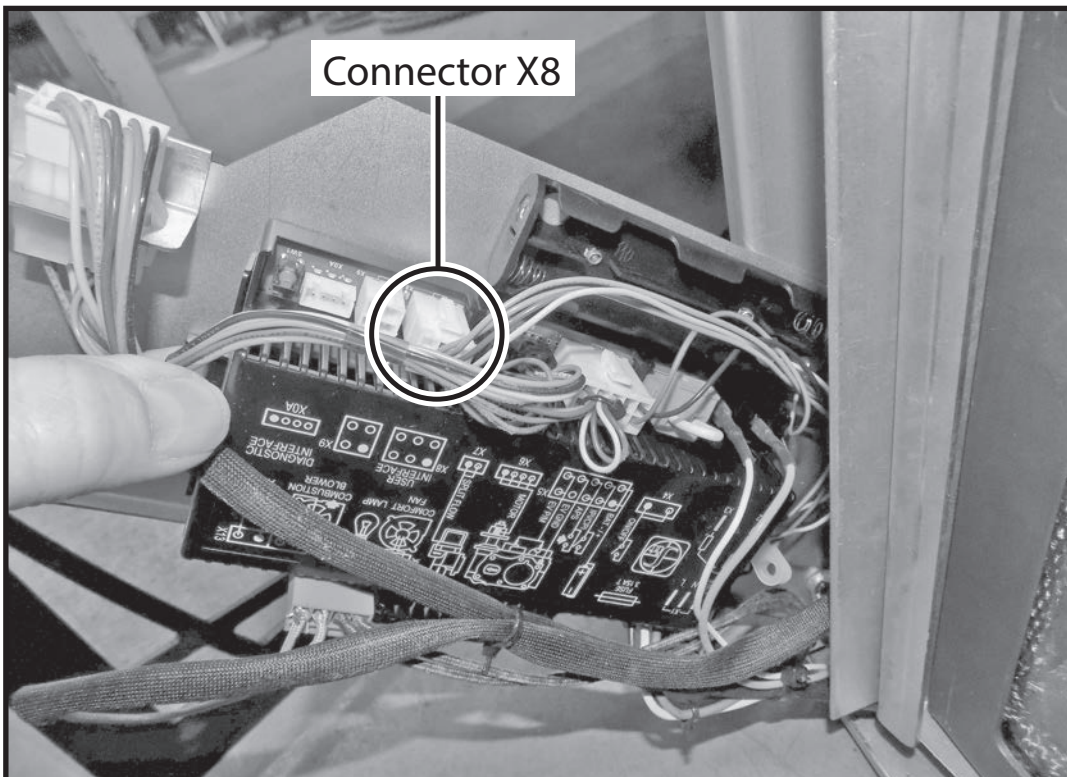

Figure 82: SIT manual switch connection at SIT module.
1. Check that the ON/OFF Switch cable is plugged into the SIT module (jack X8) as shown in Figure 82.